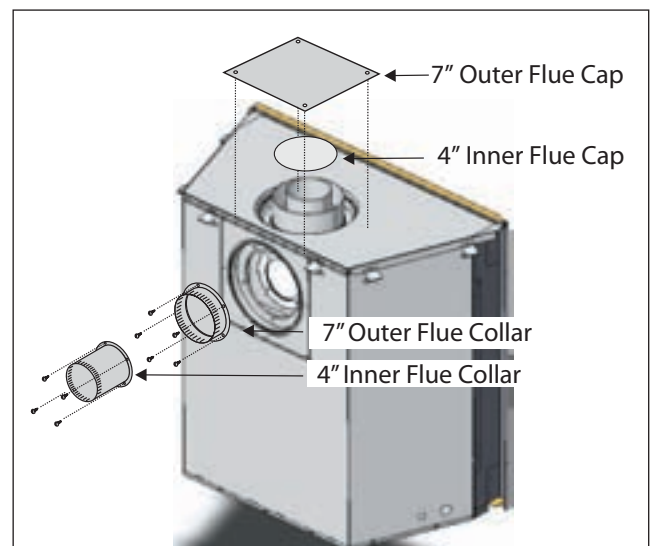

Figure 8b. Flue collar installation for Rear Vented fireplace.
3. Install the flue gasket material and flue cover plate on the top vent outlet. Fasten the plate with four screws as illustrated in **Figure 8b**.